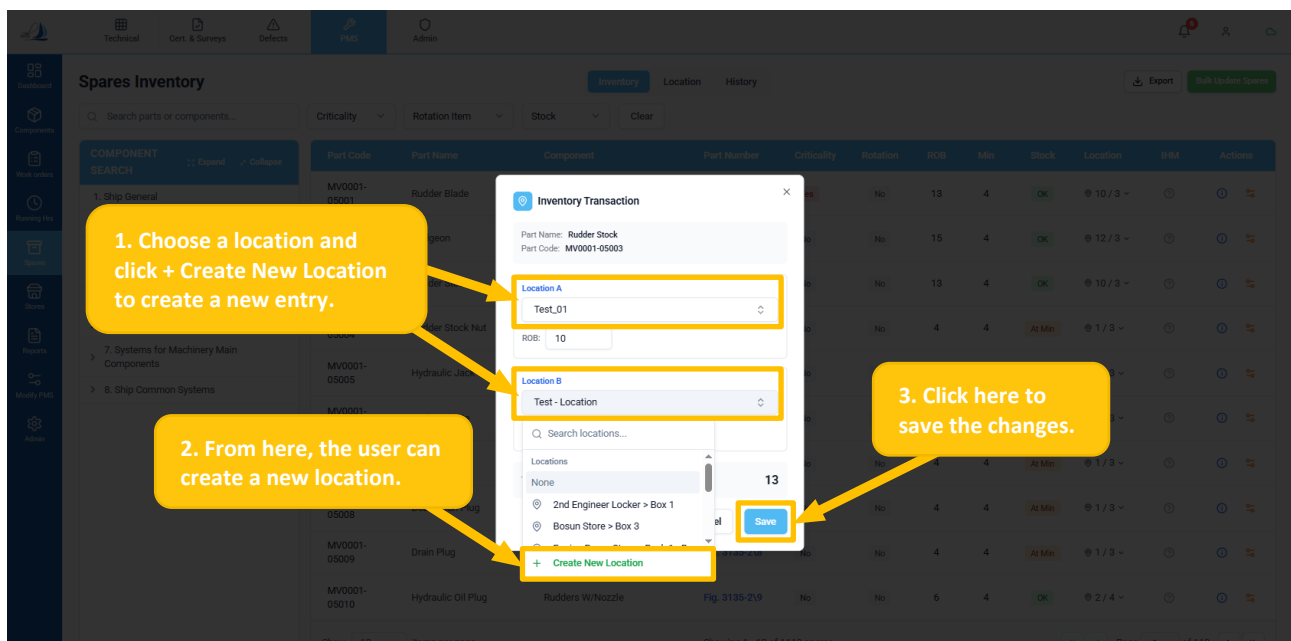

Figure 55
- The screen below appears after clicking the 'Location' icon. (Ref Figure 55)
- User can choose the required location (Location A or Location B), then click + Create New Location to create a new inventory location. (Ref Figure 55)
- Click the 'Save' button to save and update the field. (Ref Figure 55)